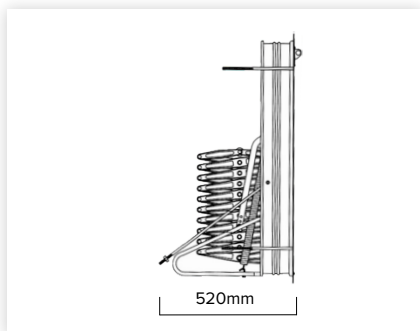

figure 2
- The area for the opening must be clear of wiring, plumbing and structural members such as weight bearing studs, pillars and walls; with a minimum unobstructed depth of 520mm for the opening of the WE30 ladder (figure 2).